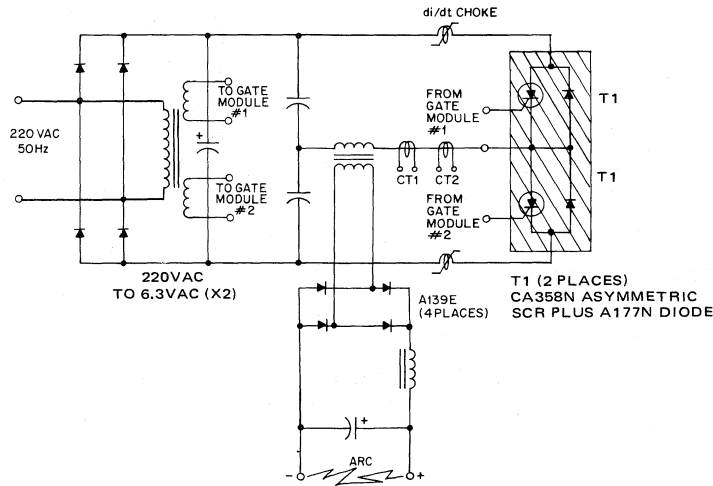
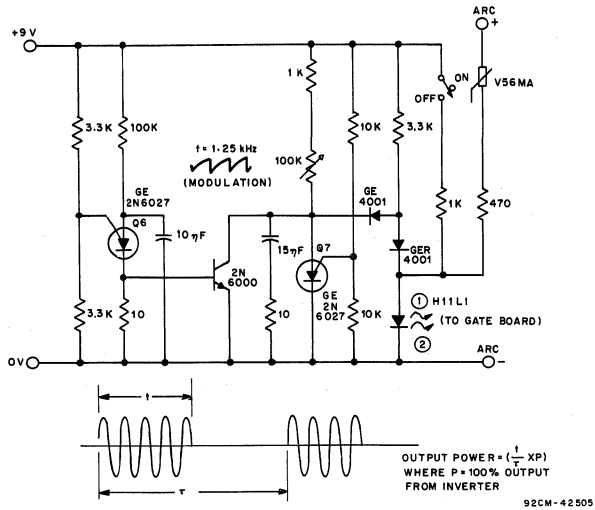
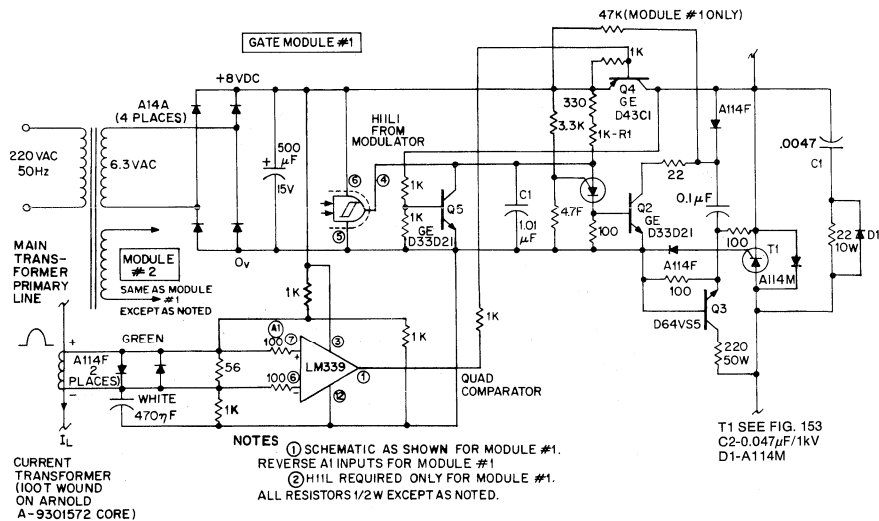

Fig. 152 - Class "A" — 3kW welding inverter.
Fig. 153 - Power modulator (with on-off switch & open circuit protection)
Fig. 154 - 20kHz inverter gate drive module.
*20 kHz Arc Welding Inverter (Full Power Modulation and No-Load Shutdown)* — The Class A series resonant inverter portrayed in Figure 152 is well-known and respected for its high efficiency, low cost, and small size, provided that operating frequency is greater than about 3kHz. The disadvantages are (at least in high power versions) the difficulty in effecting smooth RFI-less output voltage modulation without significant added complexity, and a natural tendency to “run away” under no-load (high Q) conditions. The 20kHz control circuit depicted in Figure 153 overcomes these shortcomings by feeding back into the asymmetrical thyristor trigger pulse generators (Figure 154 signals that simultaneously shut the inverter down, when its output voltage exceeds a preset threshold, and time-ratio modulates the output. This feedback is accomplished with full galvanic isolation between input and output thanks to an H11L opto Schmitt coupler. The fundamental 20kHz gate firing pulses are generated by a PUT relaxation oscillator  $Q_1$ . The pulses are then amplified by transistors  $Q_2$  and  $Q_3$ . The 20 kHz sinusoidal load current flowing in the primary of the output transformer is then detected by a current transformer CT1, with operational amplifier A1 converting the sine wave into a square wave whose transitions coincide with the load current zero points. Consequently, each time the output current changes, phase A1 also changes state and, via transistor  $Q_4$ , either connects the thyristor gate to a minus 8Vdc supply (for minimum “gate assisted” turn-off time and highest reapplied  $dV/dt$  capability) or